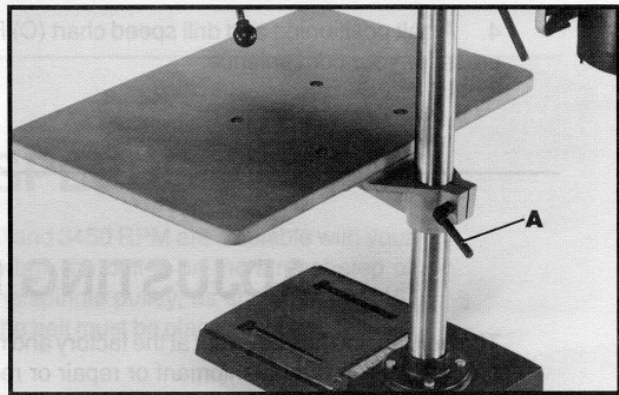

Fig. 20
1. The table can be raised or lowered on the drill press column by loosening the table clamp handle (A) Fig. 20. After the table is at the desired height, tighten handle (A) Fig. 20.
2. The table can be rotated 360 degrees on the column by loosening clamp handle (A) Fig. 20, rotate table to desired position and tighten clamp handle (A).